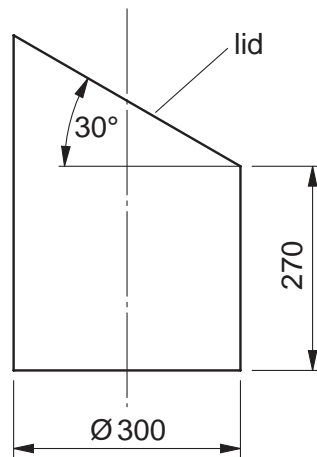

Fig. 5
- 8 Fig. 5 shows details of a model for a wastepaper bin.